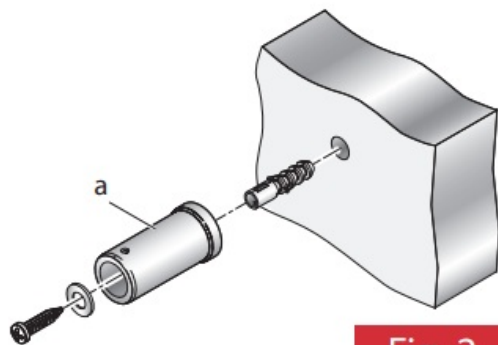

Fig. 2
2. Drill and plug the wall to suit – see Fig. 2.
3. Secure the outer wall bracket sleeves (a) to the wall using the screws provided – see Fig. 2.